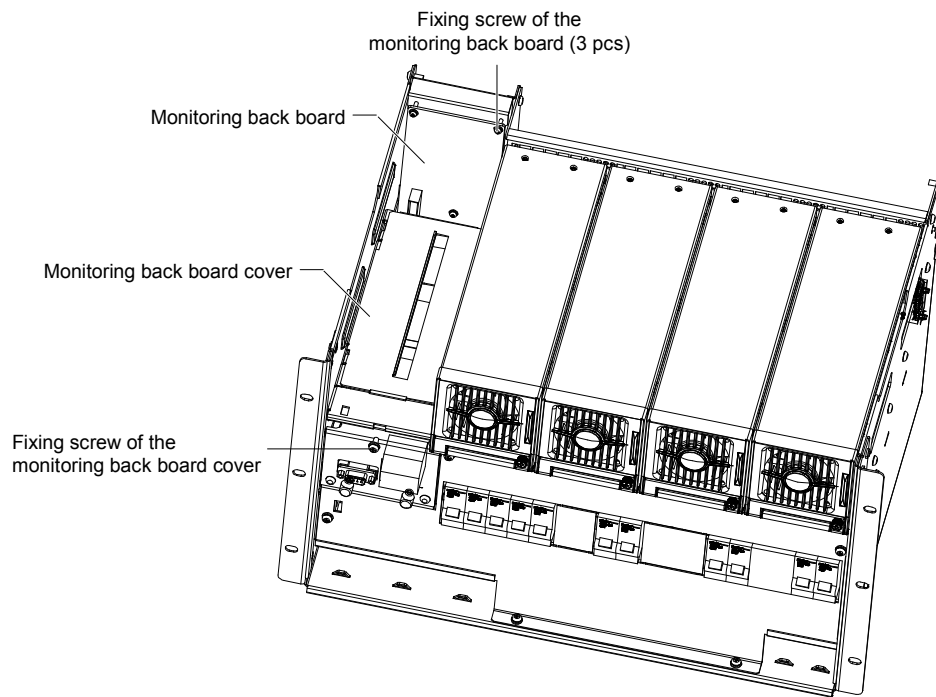

Figure 5-15 Monitoring back board
Step 2: Loosen the one fixing screw of the monitoring back board cover and remove the monitoring back board cover, as shown in Figure 5-15.
Step 3: Remove the three fixing screws of the monitoring back board and remove the monitoring back board, as shown in Figure 5-15.